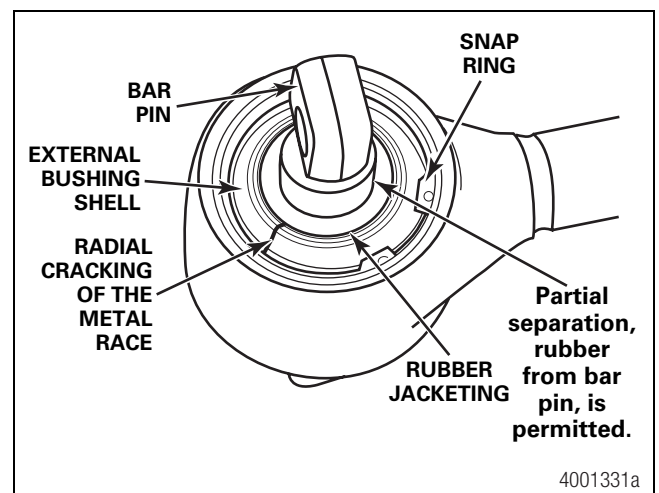

Figure 4.5
- A. Cracks or fracture of the metal parts of the bushing. Figure 4.5.